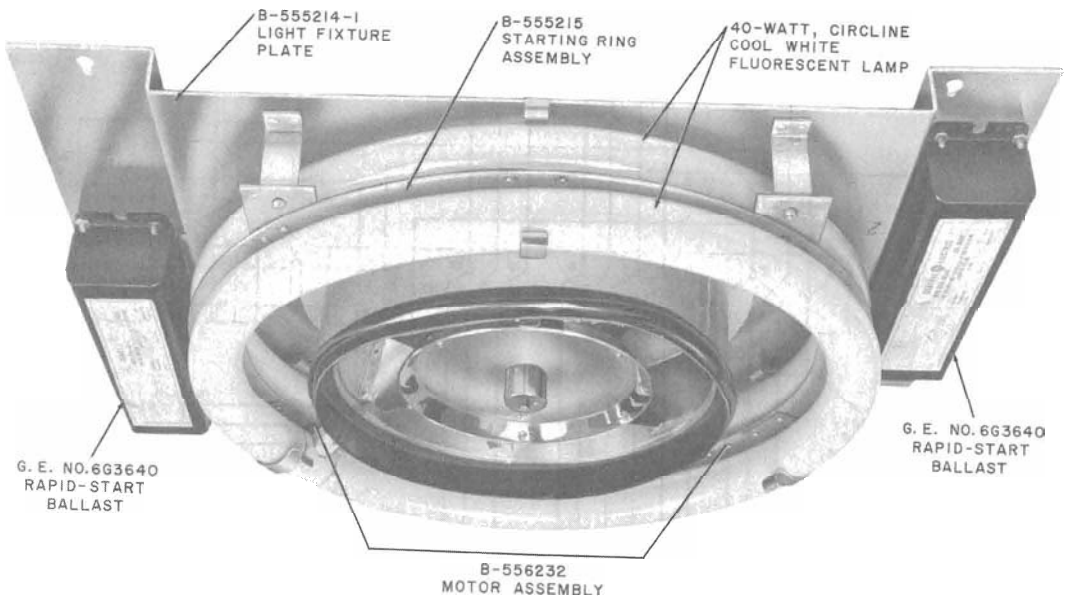

Fig. 4—KS-19207, List 3 Light and Blower Unit Plus Lamps
**2.03 KS-19207, List 3 Light and Blower Unit (Fig. 4)**